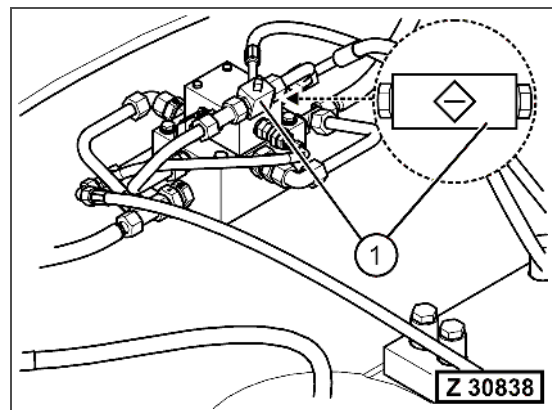

Fig. 4-96
3. Relieve the pressure in the track tensioning system by opening the ball cock (Fig. 4-96, Pos. 1) at the track tensioning valve block inside the undercarriage center body.